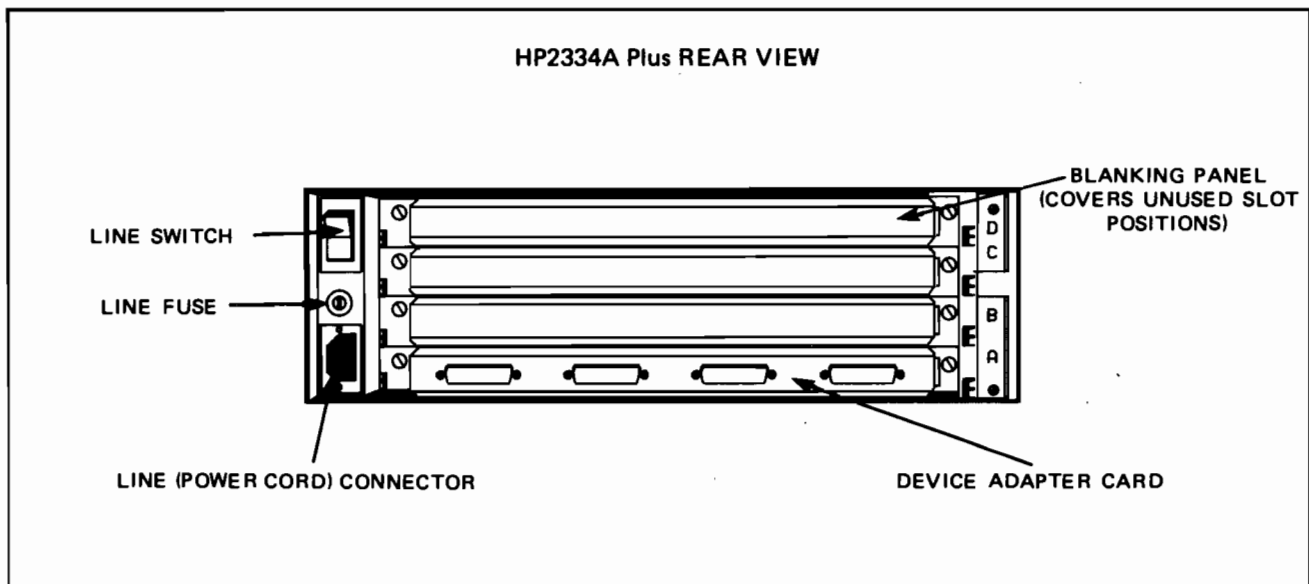

Figure 4-2 HP2334A Plus Line Connector, Switch and Fuse
- 1) Using a flat blade screwdriver, unscrew the rear panel circular plastic fuse holder located below the LINE switch (see Figure 4-2).
- 1) Ensure that the HP2334A Plus rear panel LINE switch is set to OFF (0).
- 2) Connect the power cord to the HP2334A Plus rear panel line connector (see Figure 4-2), then plug it into the site power outlet.